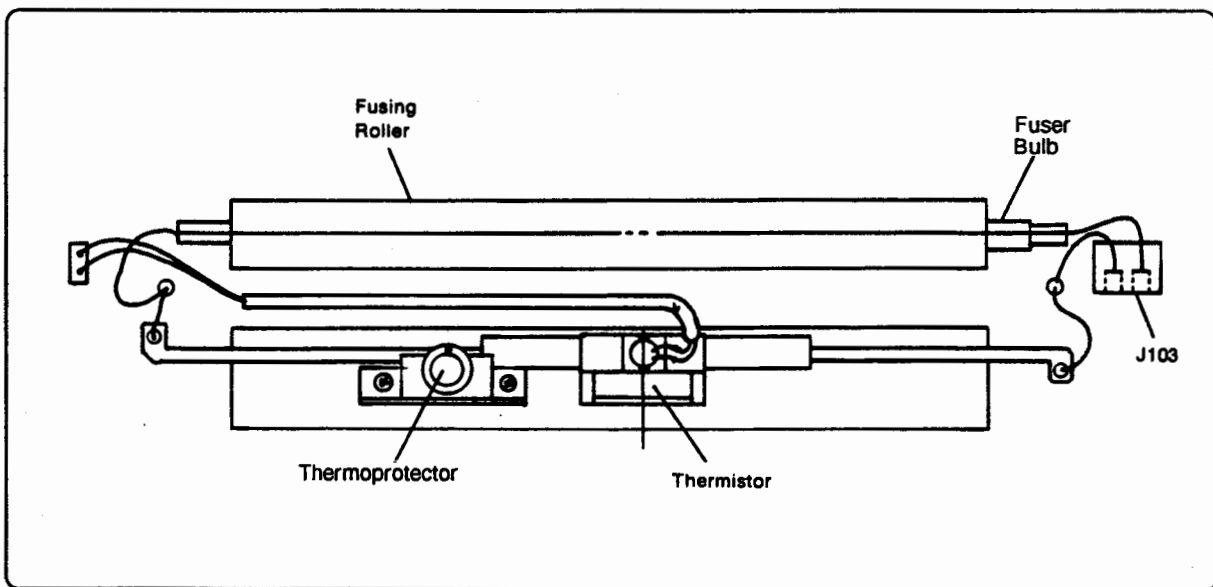

Figure 7-22. Thermoprotector/Fuser Bulb Check
2. Using an ohm meter, check for continuity at the two pin connector (J103) at the right side of the Fusing Assembly (see Figure 7-22).